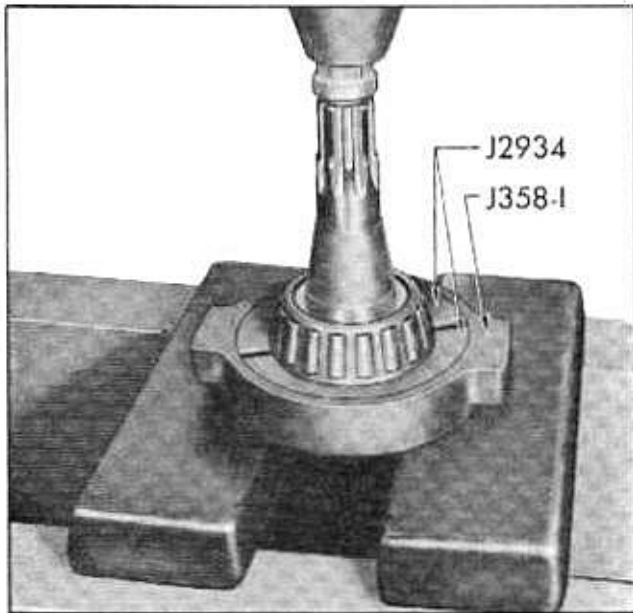

Fig. 4-31 Removing Bearing With Plates J-2934 and Holder J-358-1
13. If pinion rear bearing is to be replaced, slip the two sections of Remover Plates J-2934 between bearing and pinion and place in Holder J-358-1 (Fig. 4-31). Press pinion from bearing. NOTE: Flat sides of remover plates should be placed against bearing; concave sides against Holder J-358-1.